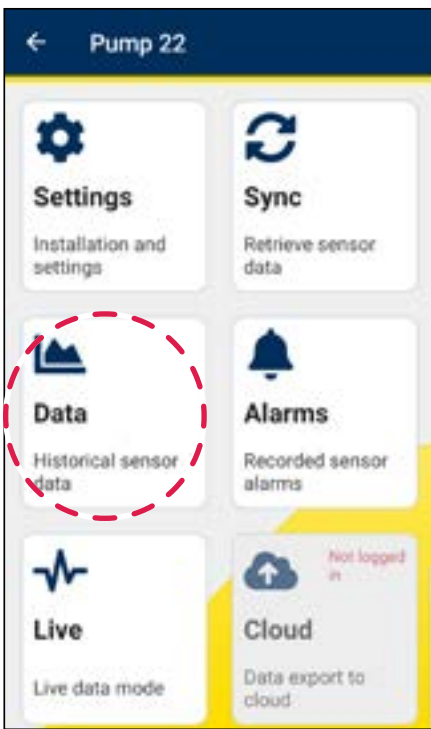

Figure 16
2. Select **Data** (see figure 16).